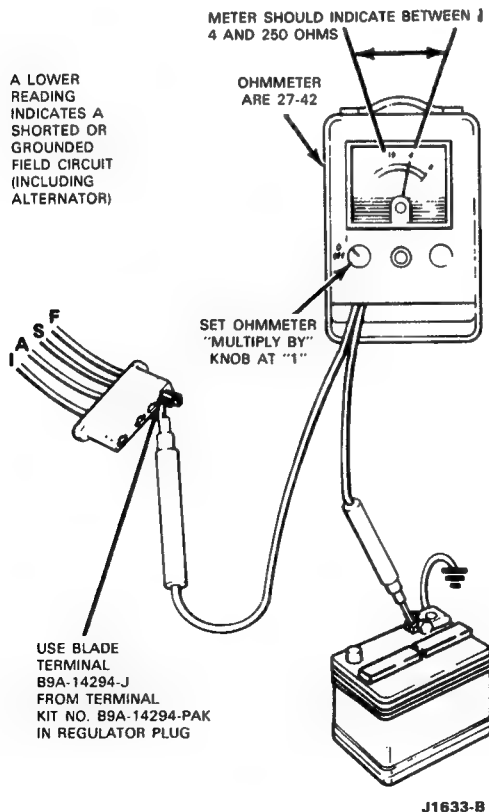

FIG. 11 Field Circuit Test
8. The field circuit should be checked with the regulator wiring plug disconnected and an ohmmeter connected from the F terminal of the regulator wiring plug to the battery ground. The ohmmeter should indicate between 4 and 250 ohms (Fig. 11).